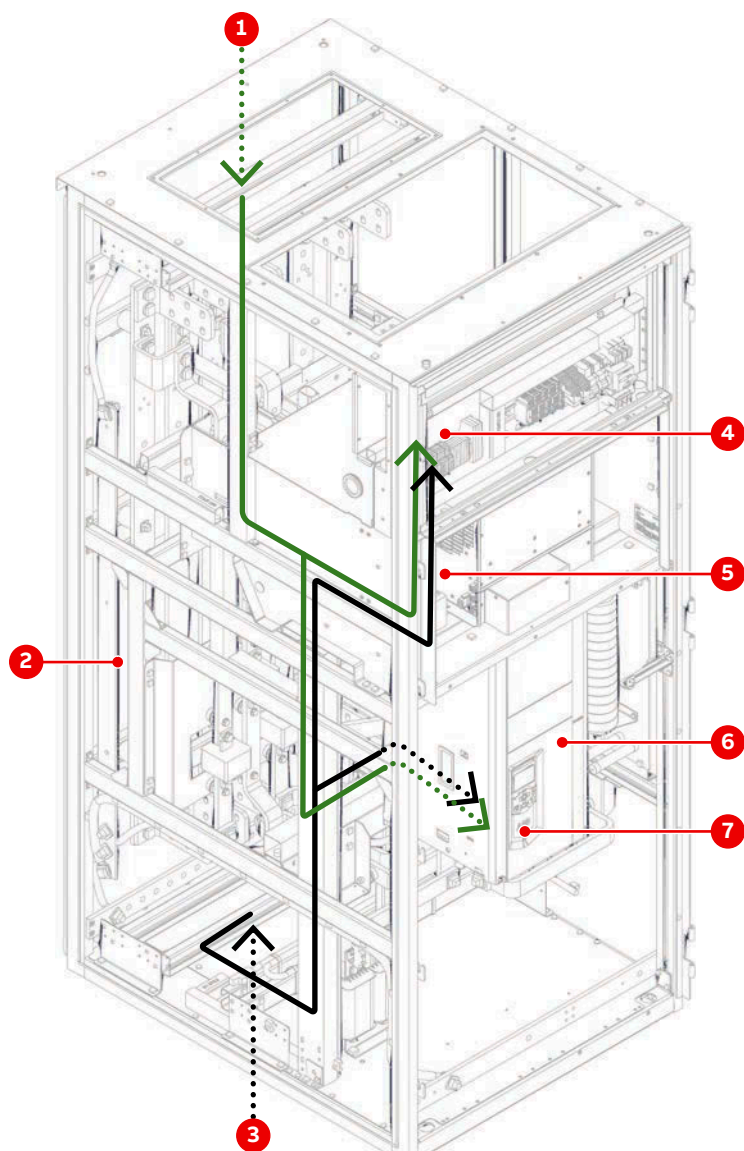

Figure 6–38 Cable routing example in an EXU cabinet with an ED5V, EB5R, EB5S, EB7P or EB7Q type DCS800 converter
7. Route the cables through the designated cable ducts as illustrated in Fig. 6–38.